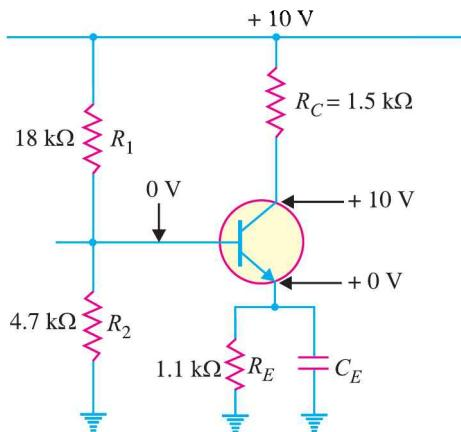

Fig. 9.46
**Example 9.38.** What fault is indicated in Fig. 9.46 ? Explain your answer with reasons.